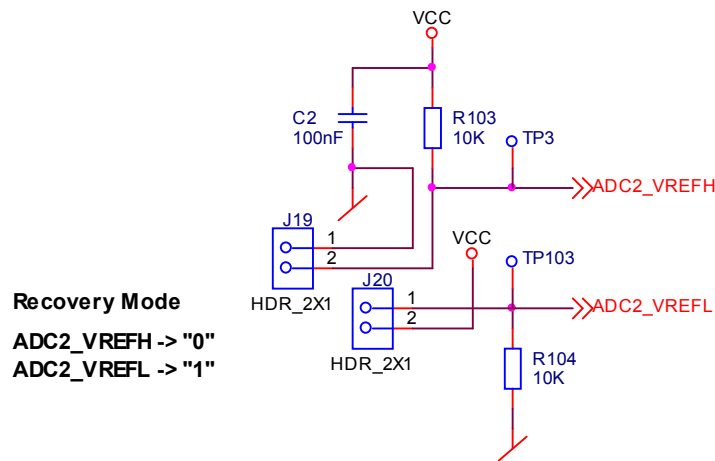

Figure 3-24. Typical FLASH Erase Circuit
- Figure 3-24 shows a typical hardware configuration with jumpers to erase FLASH.